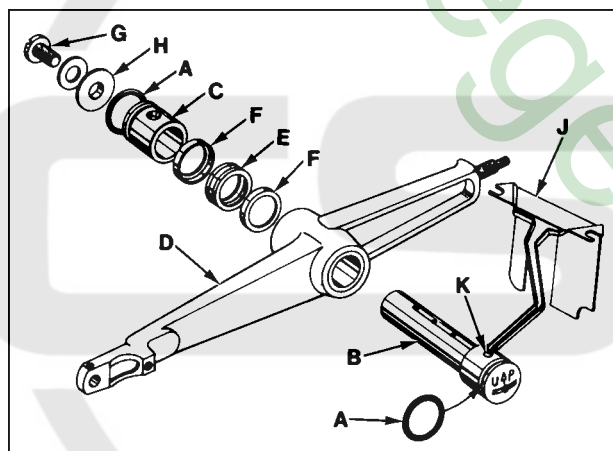

Fig 16
1. Install "O" rings (A, Fig. 16) onto needle lever stud (B) and thrust collar (C).
2. With needle lever (D) in machine and positioned properly; insert stud (B) through hole in needle lever until its shoulder contacts the needle lever and the word "UP" on stud is in the upright position. While making sure no binding exists in the needle bar link, secure stud (B) with the front set screw in top of machine bed.
3. Install temper load ring (E) and compression cups (F) onto stud (B), then push ring and cups through opening in machine bed.
4. Install thrust collar (C) onto stud (B) being careful not to damage "O" ring. Compress components together by tightening screw (G) until washer (H) bottoms against stud (B). Secure stud (B) in position using the rear set screw in top of bed.
5. To check temper load ring for proper compression, remove screw (G) from stud (B) and loosen rear set screw in top of bed. Thrust collar (C) should spring out .003 - .007 inch (.08 - .18mm). Compress load ring in reverse order, then tighten rear set screw.
6. With indented "UP" on stud (B) in upright position, install bearing oiler (J) so its hook sets in oil supply hole (K) of stud. When hook and stud are secured in their proper positions, the proper amount of oil will be channeled to stud for lubricating needle lever (D).